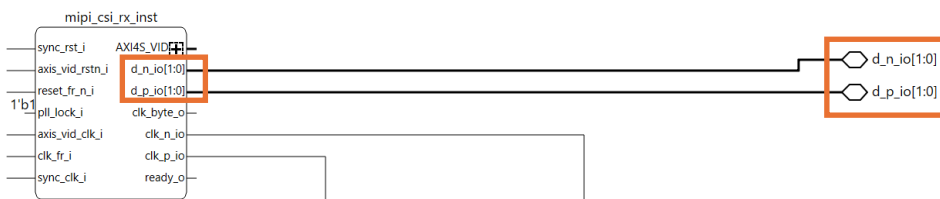

Figure 7.7. Lattice Propel Builder Connection Update for MIPI CSI RX Data Lanes
6. Update the d_n_io and d_p_io inout ports from [3:0] to [1:0] and reconnect the inout ports to the corresponding ports as shown in Figure 7.7.